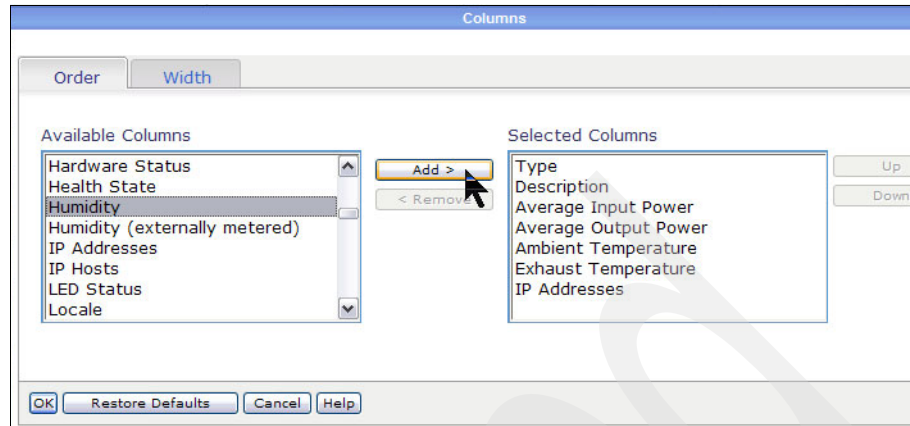

Figure 6-5 Adding and removing columns
4. To change the displayed columns, or to add new ones, click **Actions** and select **Columns** (Figure 6-5 on page 190). Then, click **OK**.